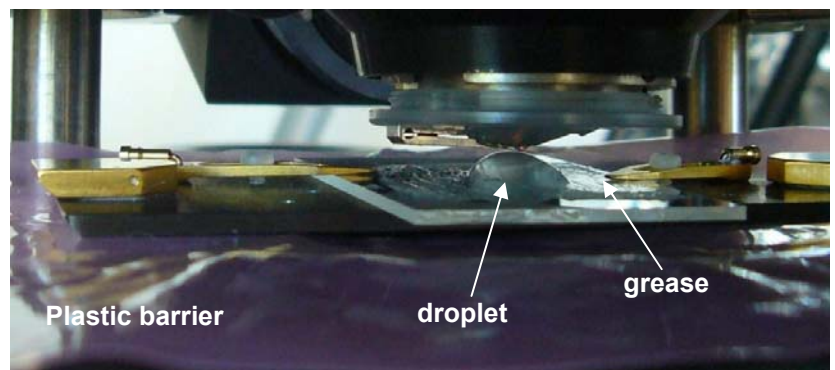

Figure 6.2.10: Droplet containment with vacuum grease.
- A reservoir around sample can also be made. This can be done a variety of ways: the author has found that a silicone based adhesive, or vacuum grease (Dow Corning 976V) works very well to fabricate a fluid barrier on a glass slide. Figure 6.2.10 shows the cantilever holder above a droplet on a sample surrounded by vacuum grease.